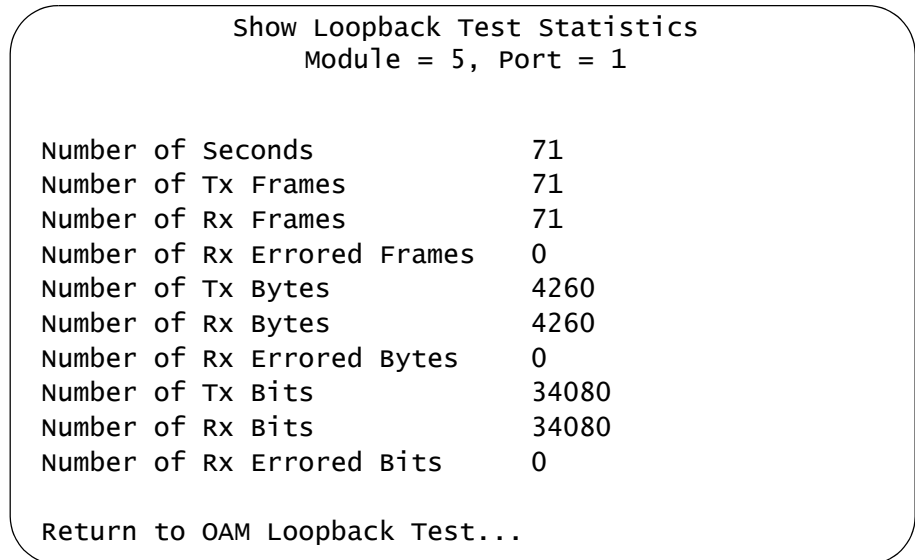

Figure 109. Show Loopback Test Statistics Window
8. To view test statistics, select **Show Loopback Test Statistics**. The Show Loopback Test Statistics window is shown in Figure 109.